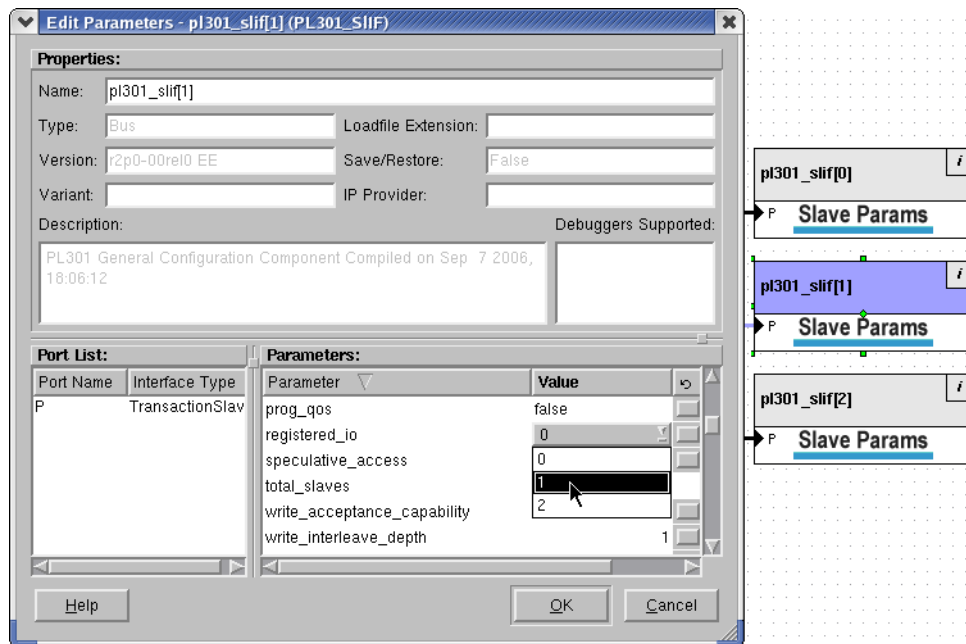

Figure 4-9 Configuring master interface 1
- Set the registered_io parameter to 1, as Figure 4-9 on page 4-12 shows.